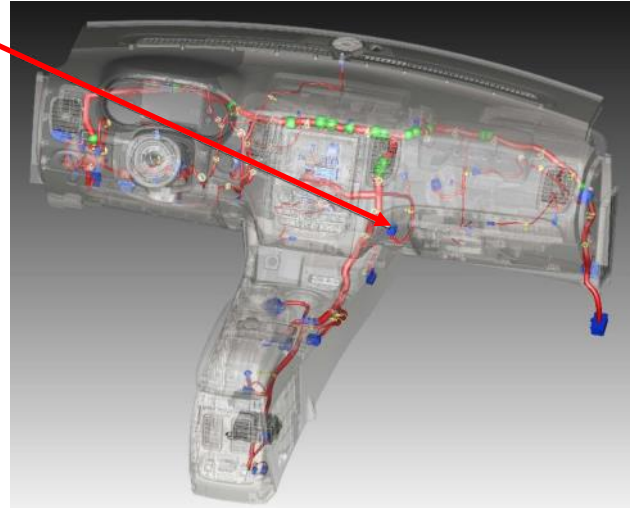

Figure 1
The 2018-present Durango has a "Gateway" module located in the underdash in the front passenger area (see Figure 1). The C-UIM data link harness T's into an 8-pin and 12-pin connector on this gateway module.
2. Locate the Gateway module in the location shown in Figure 1.